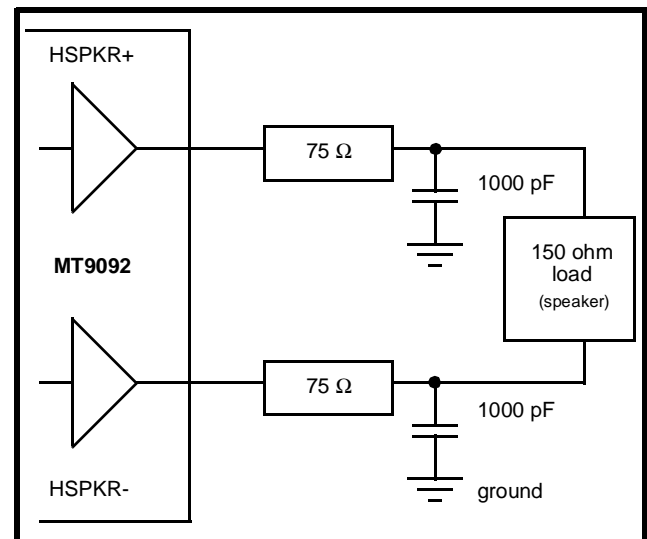

Figure 5- Handset Speaker Driver
- ◆ The handset speaker outputs (receiver), pins HSPKR+/HSPKR-. This internally compensated, fully differential output driver is capable of driving the load shown in Figure 5. This output is enabled/disabled by the HSSPKR EN bit residing in the Transducer Control Register (address 0Eh). The nominal handset receive path gain may be adjusted to either -12.3dB (suggested for μ -Law) or -9.7dB (suggested for A-Law). Control of this gain is provided by the RxA \bar{u} control bit (General Control Register, address 0Fh). This gain adjustment is in addition to the programmable gain provided by the receive filter and DSP.